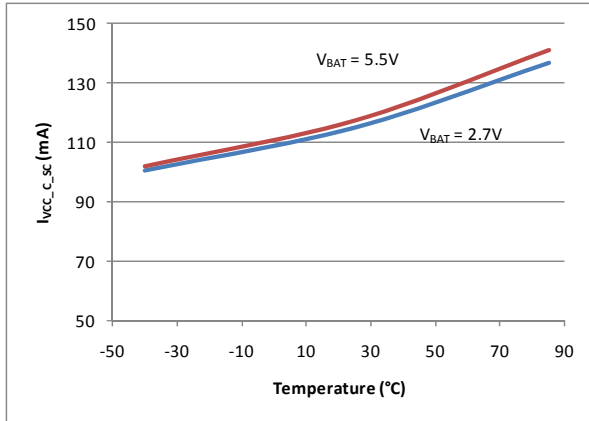
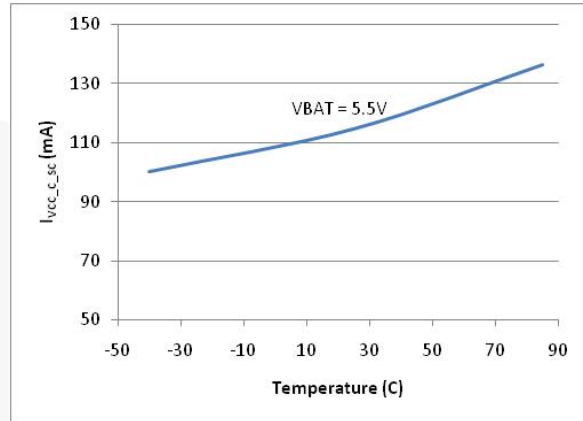
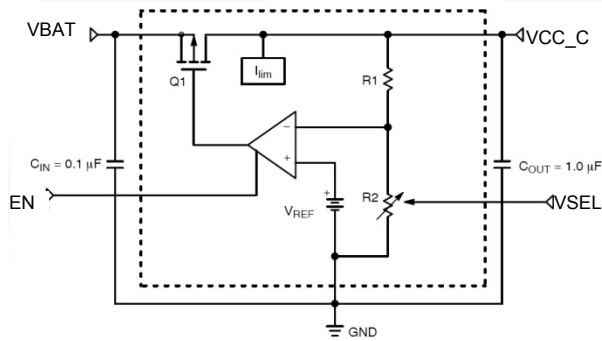

Figure 4. Short-Circuit Current, ($I_{VCC_C_SC}$) vs. Temperature $V_{CC_C}=1.8V$ ($V_{SEL}=LOW$)
Figure 5. Short-Circuit Current, ($I_{VCC_C_SC}$) vs. Temperature $V_{CC_C}=3.0V$ ($V_{SEL}=HIGH$)
Figure 8. Simplified Block Diagram of the LDO Voltage Regulator
FXLP4555 has a shutdown input (EN) that allows it to turn off or turn on the regulator output. Figure 8 shows a simplified view of the voltage regulator. The V_{CC_C} output is internally current limited and protected against short circuits. The short-circuit current (I_{VCC_C_SC}) is constant over the SIM Card V_{CC} and V_{BAT}, while it varies with operating temperature, typically in the range of 90mA to 140mA (Figure 4 and Figure 5).